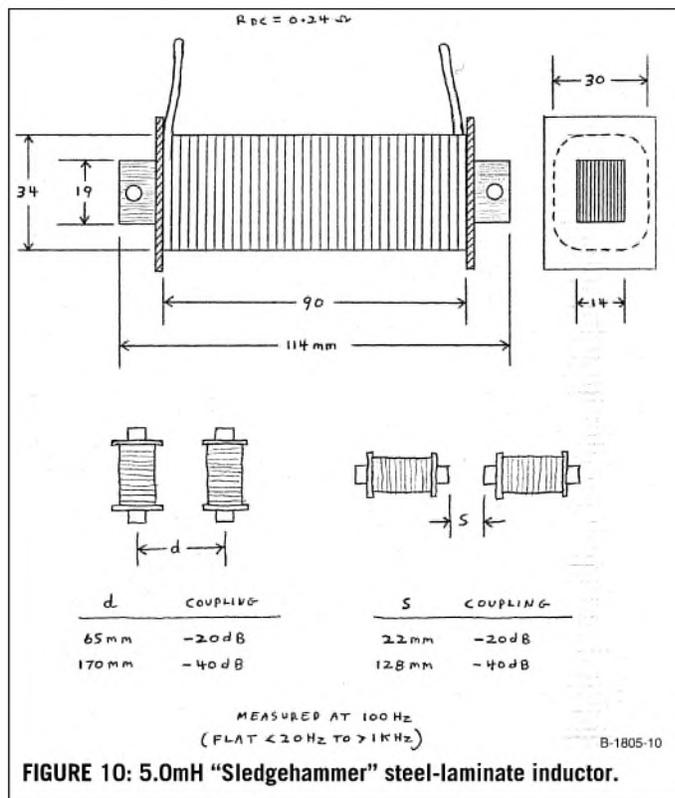

FIGURE 10: 5.0mH "Sledgehammer" steel-laminate inductor.
3. 5mH "Sledgehammer" steel-laminate coils (Fig. 10).
Figure 10 shows a 5.0mH "Sledgehammer" steel-laminate inductor from Madisound, and the (worst-case) parallel-aligned orientation spacings required for couplings of -20dB and -40dB.